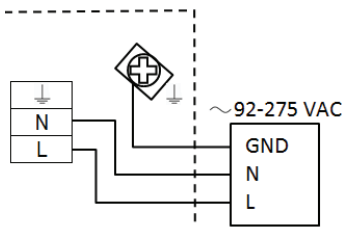

Figure 1: Power supply 92...275V AC (50/60 Hz); recommended cable size min. 0.3 sq. in. (0.75 mm²)
5. Connect the power as shown in *Figure 1* or *Figure 2*, depending on the version (AC or DC) of meter you have.